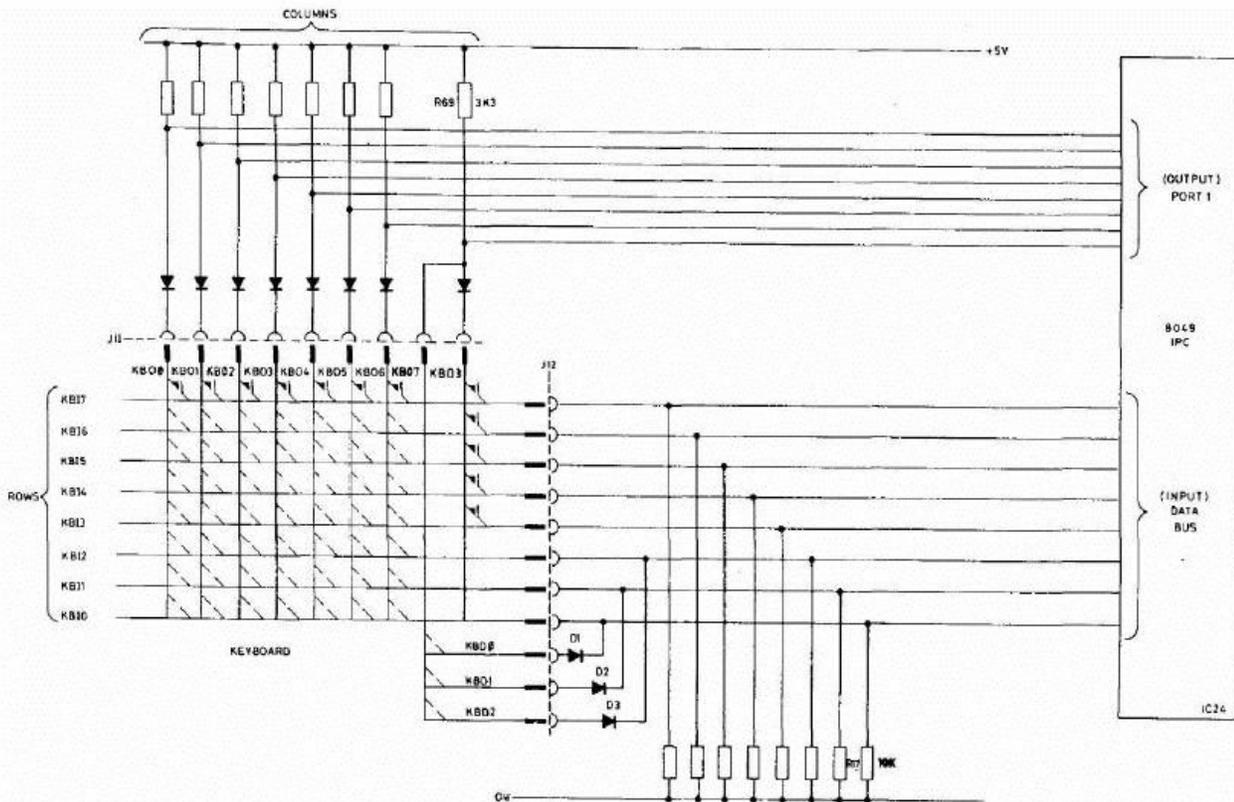

FIGURE 1.2 KEYBOARD MATRIX INTERCONNECTIONS
4.12 Keyboard Monitor. Under program control the 8049 systematically scans the keyboard, recording which keys have been pressed. Figure 1.2 shows the way the keyboard is connected. It consists of an 8 x 8 matrix with one key, the shift key, connected to three input lines. The intersection of each row and column is bridged by a normally open contact. Pressing the key closes this switch. The row 'outputs' and column 'inputs' are shown connected to separate connectors J11 and J12, one to the port 1 outputs of IC24 and the other to the data bus inputs. Pull-down resistors R17 to R24 ensure that when none of the key-switches are closed row inputs KBO0 to KBO7 remain low.